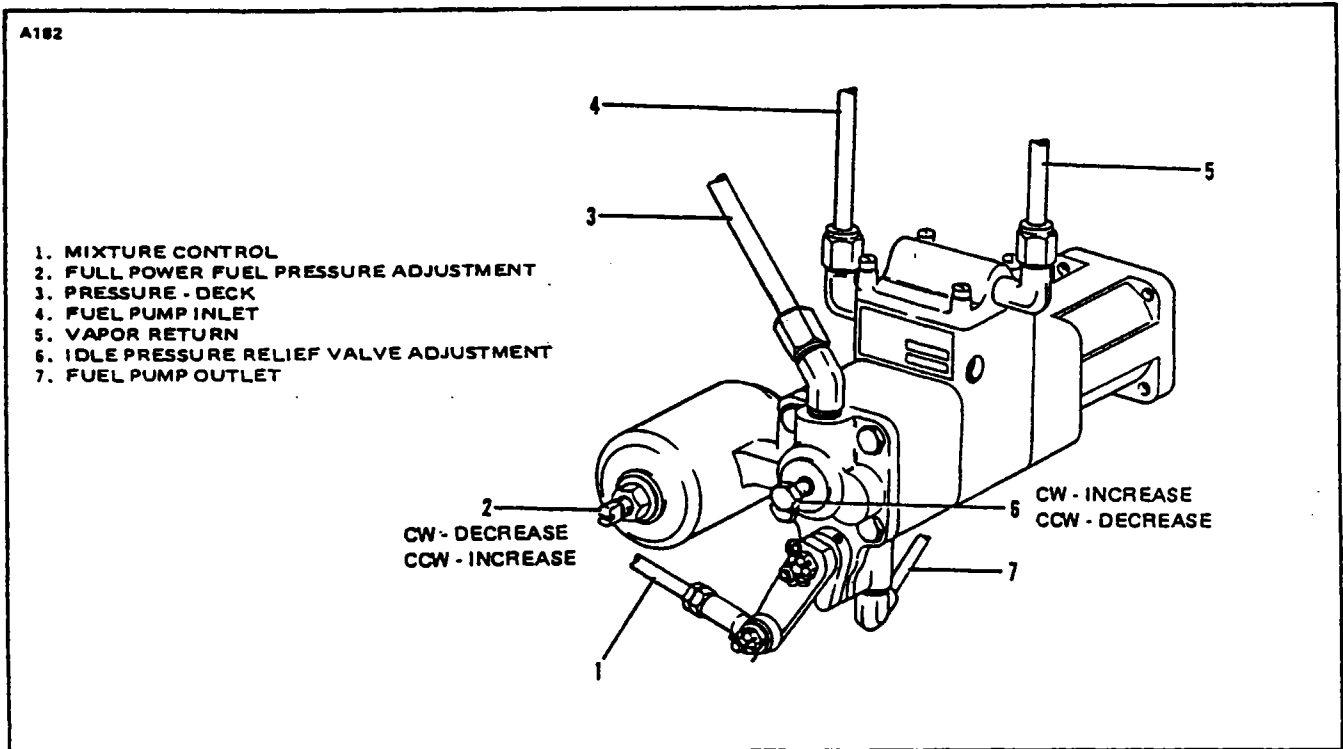

Figure 8-35. Sectional View of Altitude Compensating Fuel Pump Assembly
3. While maintaining 700 ± 25 RPM, set the idle fuel pressure at 6.5 ± 0.25 psi by adjusting the idle pump adjustment screw (refer to Figure 8-35, item 6); clockwise adjustment increases pressure; counterclockwise adjustment decreases pressure.
g. Check and Adjustment for Full Power Performance: (Refer to Figure 8-35.)
4. If adjustment is required, shut the engine down, loosen the jam nut on the adjusting screw located on the aneroid housing of the fuel pump. (Refer to Figure 8-35, item 2.) Clockwise adjustment decreases fuel flow reading; counterclockwise adjustment increases fuel flow reading; one full turn will cause a 1.0 to 1.5 gph change. Use CAUTION when loosening and tightening the jam nut so as not to change settings.